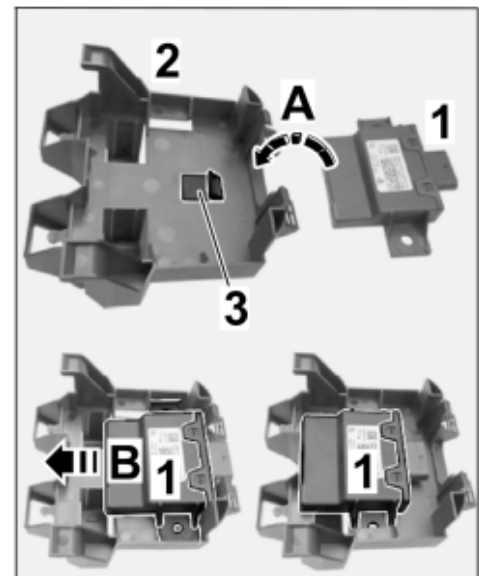

Figure 11
- 2.3.2 Insert new engine noise control unit at the underside in the control unit holder. ⇒ *Figure 11 -A-*
- 2.3.3 Push the engine noise control unit in the holder to the opposite side of the plug connection (⇒ *Figure 11 -B-*) until control unit engages in the holder.